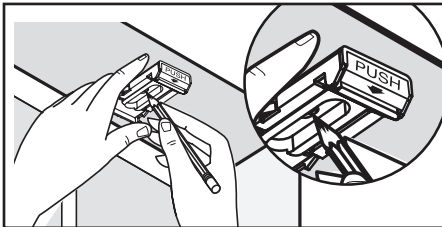

Fig. 4
Align the clip's edges to the line marked in Step 2. Mark (1) pilot hole with pencil (Fig. 4).